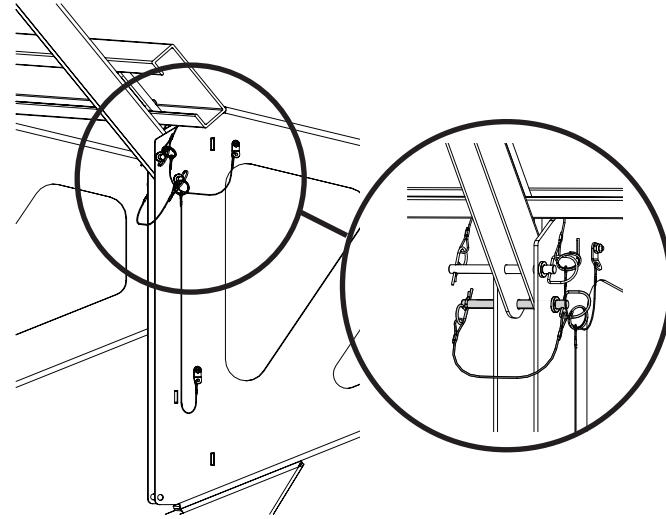

Figure 32
3. Install each lower hinge pin through the open holes in the top hole of each LPD mount supports and mount weldments (Figure 32).